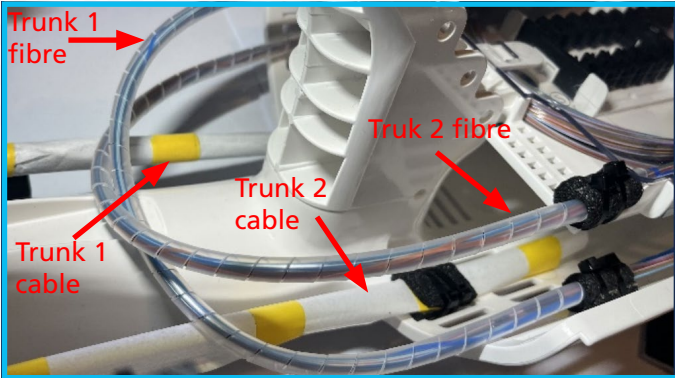

Figure 9.7
7. Repeat the same process for the second 432f cable, route the unit bundle to the opposite side of the splice tray [figure 9.7].